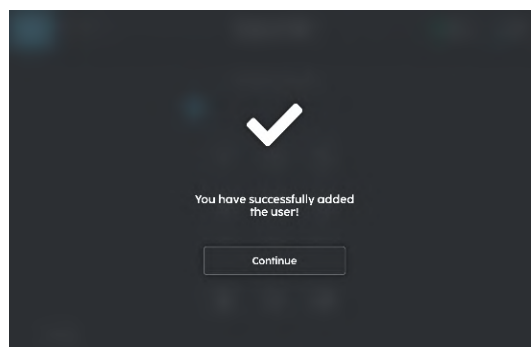

FIGURE 3-17
8. The user account setup is complete (**Fig. 3-17**).